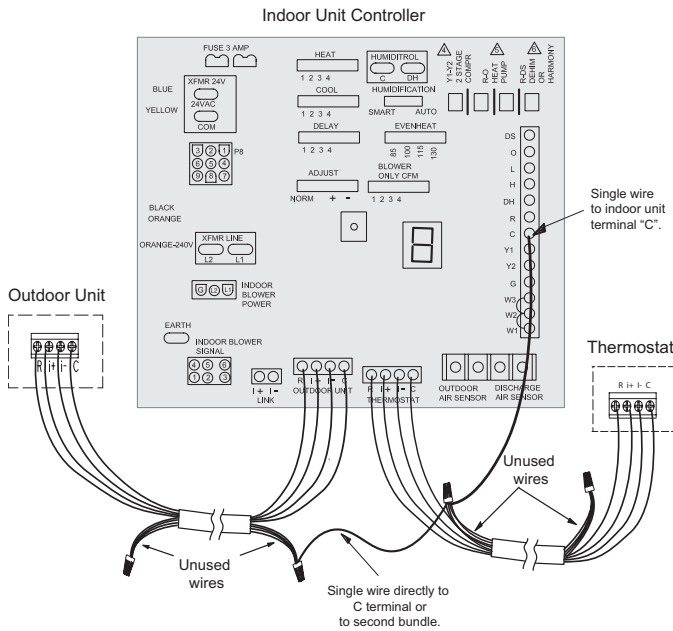

Figure 13. Minimizing Electrical Noise
**NOTE:** When using multi-conductor unshielded thermostat cable, refer to "Figure 13. Minimizing Electrical Noise" on page 9.